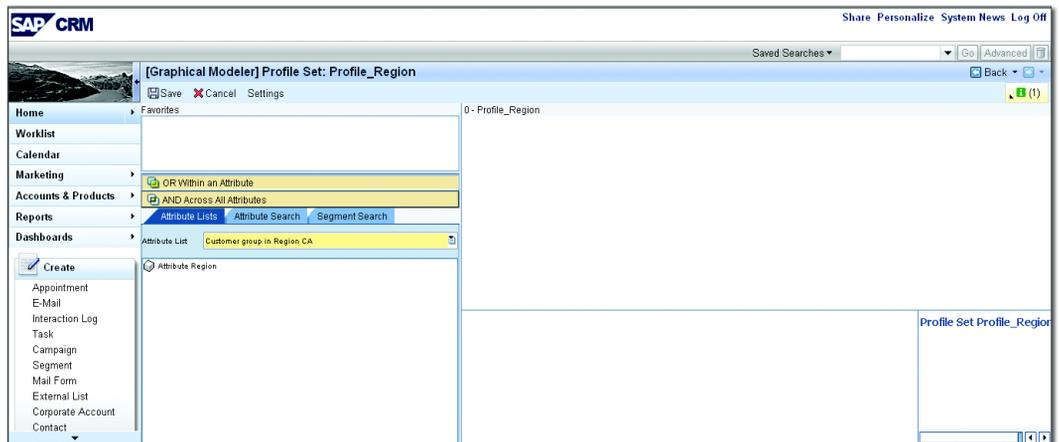

Figure 5.50 Graphical Modeler of the Segmentation
8. Select the attribute list created (see Figure 5.50).